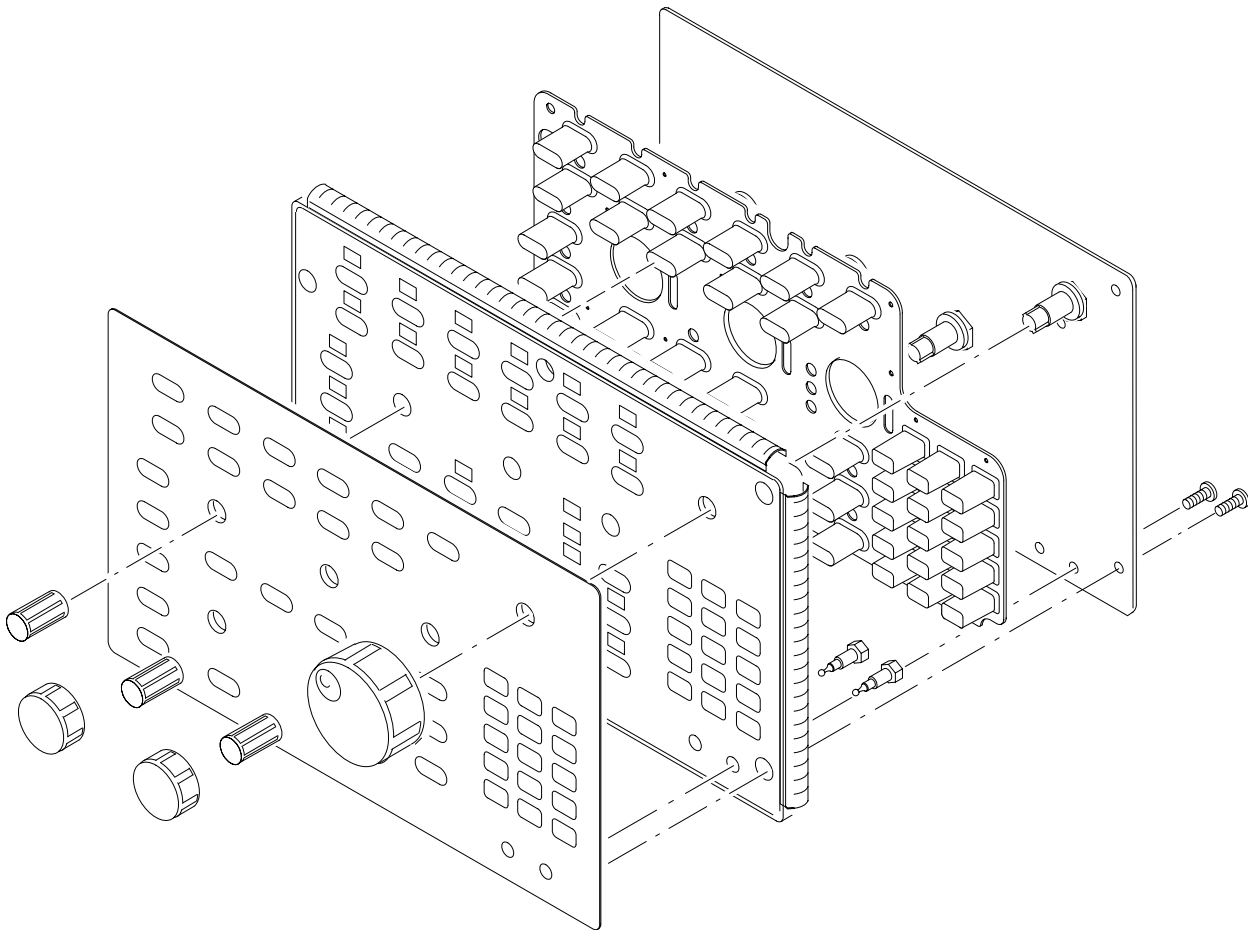

Figure 6–9: Disassembly of Front-Panel Assembly
- b. Locate the modules to be removed in the locator diagram *External Modules*, Figure 6–1.
- b. Disconnect that cable at J2 of the processor/display board. Disconnect the flex-board connector at P3 of the front-panel assembly. (The flex board is part of the display-frame assembly.) Disconnect cable W76. See Figure 6–8.
- c. Now hand disassemble the front-panel assembly components using Figure 6–9 as a guide. Reverse procedure to reassemble, using the same Figure 6–9 as a guide.
5. *Reinstallation:* If the front-panel assembly was further disassembled in step 4, then reverse substeps 4a–4c to reassemble, using Figure 6–9 as a guide. Then do step 3, reversing the procedure outlined in each substep. Last, reinstall the trim ring and, if desired, the front cover, referring to the procedure *Front Cover, Trim Ring, Menu Buttons, and Attenuator Panel* (page 6–22).
1. *Assemble equipment and locate modules to be removed:* Have handy a screwdriver with a size T-15 Torx® (Items 1 and 2). Locate the modules to be removed in the locator diagram *Outer-Chassis Modules*, Figure 6–2, page 6–13.
1. *Assemble equipment and locate modules to be removed:* Have handy a pair of needle-nose pliers (Item 6). Locate the modules to be removed in the locator diagram *External Modules* (see Figure 6–1).